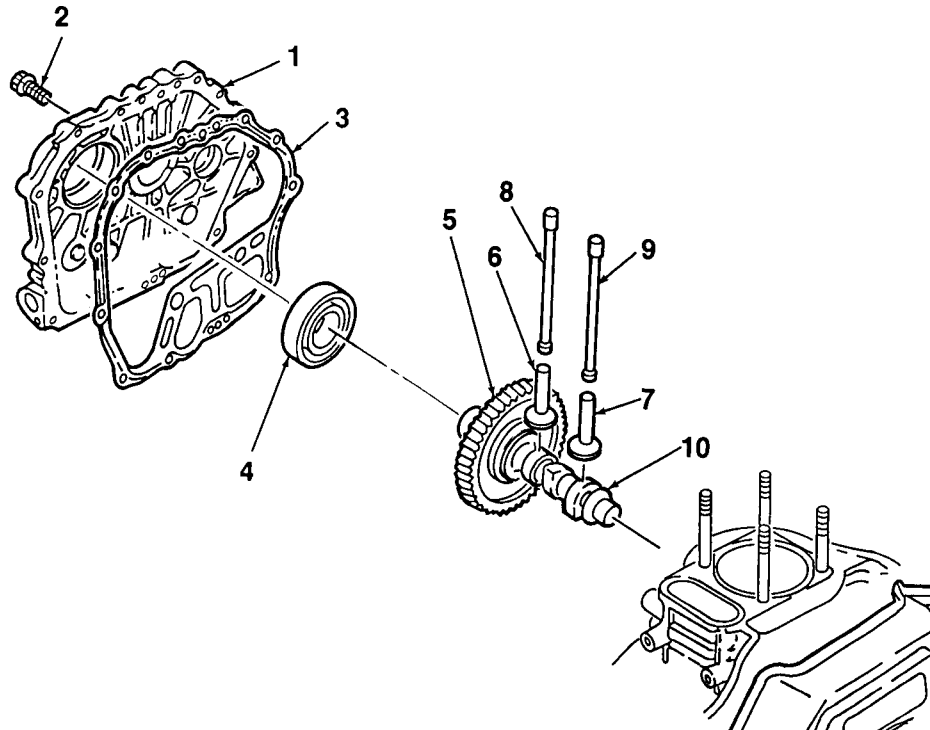
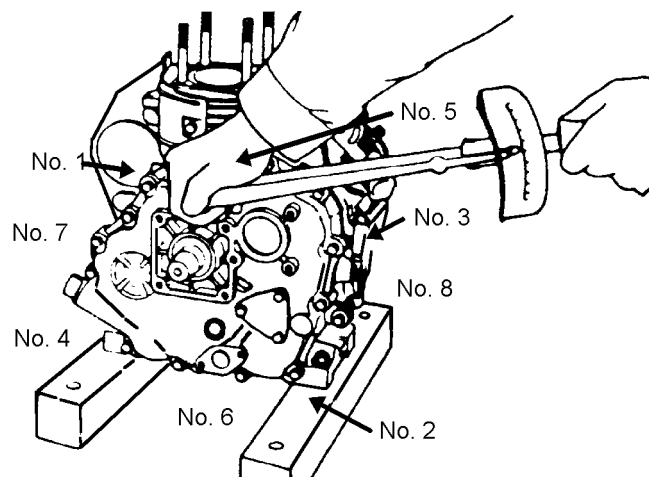

Figure 5-10. Camshaft Assembly Installation
Figure 5-11. Crankcase Cover Bolt Tightening Sequence
3. Inspect gear (5, Figure 5-10) for broken, chipped, or worn teeth. Replace gear and camshaft (10) as an assembly if gear is damaged or worn.
4. Inspect outer surfaces of tappets (6, 7) for wear or damage. Check condition of tappet contact point. Measure the outside diameter (OD) of tappet stems. OD must be 0.2705 inch (6.87 mm), minimum. Replace tappet if damaged, worn, or out of limits.
5. Measure the OD of camshaft (10) where it mates to crankcase cover bearing (4). OD must be 1.1772 inches (29.90 mm), minimum. Replace camshaft (10) and gear (5) if out of limits.
6. Measure the OD of camshaft (10) on opposite end (where it mates to cylinder block needle bearing). OD must be 0.5874 inch (14.92 mm), minimum. Replace camshaft (10) and gear (5) if out of limits.
7. Measure the internal diameter (ID) of bearing (4). ID must be 1.1808 inches (29.993 mm), maximum. Replace bearing if out of limits.
1. Insert tappets (8, 9, Figure 5-10) into cylinder block. Install push rod tappets (6, 7).
2. Carefully insert assembled camshaft (10) and gear (5) into cylinder block. Align match-marks on camshaft gear with those on crankshaft gear, then press camshaft (10) into crankcase needle bearing.
3. Apply grease to lips of crankshaft oil seal (located in crankcase cover (1)).
5. Mate cover gasket (3) to cylinder block.
6. Mate crankcase cover (1) to cylinder block and secure using fifteen screws (2). Tighten screws in criss-cross sequence as shown in Figure 5-11. Torque all screws to 14.5 to 16.6 ft-lbs. (200 to 230 kg-cm).